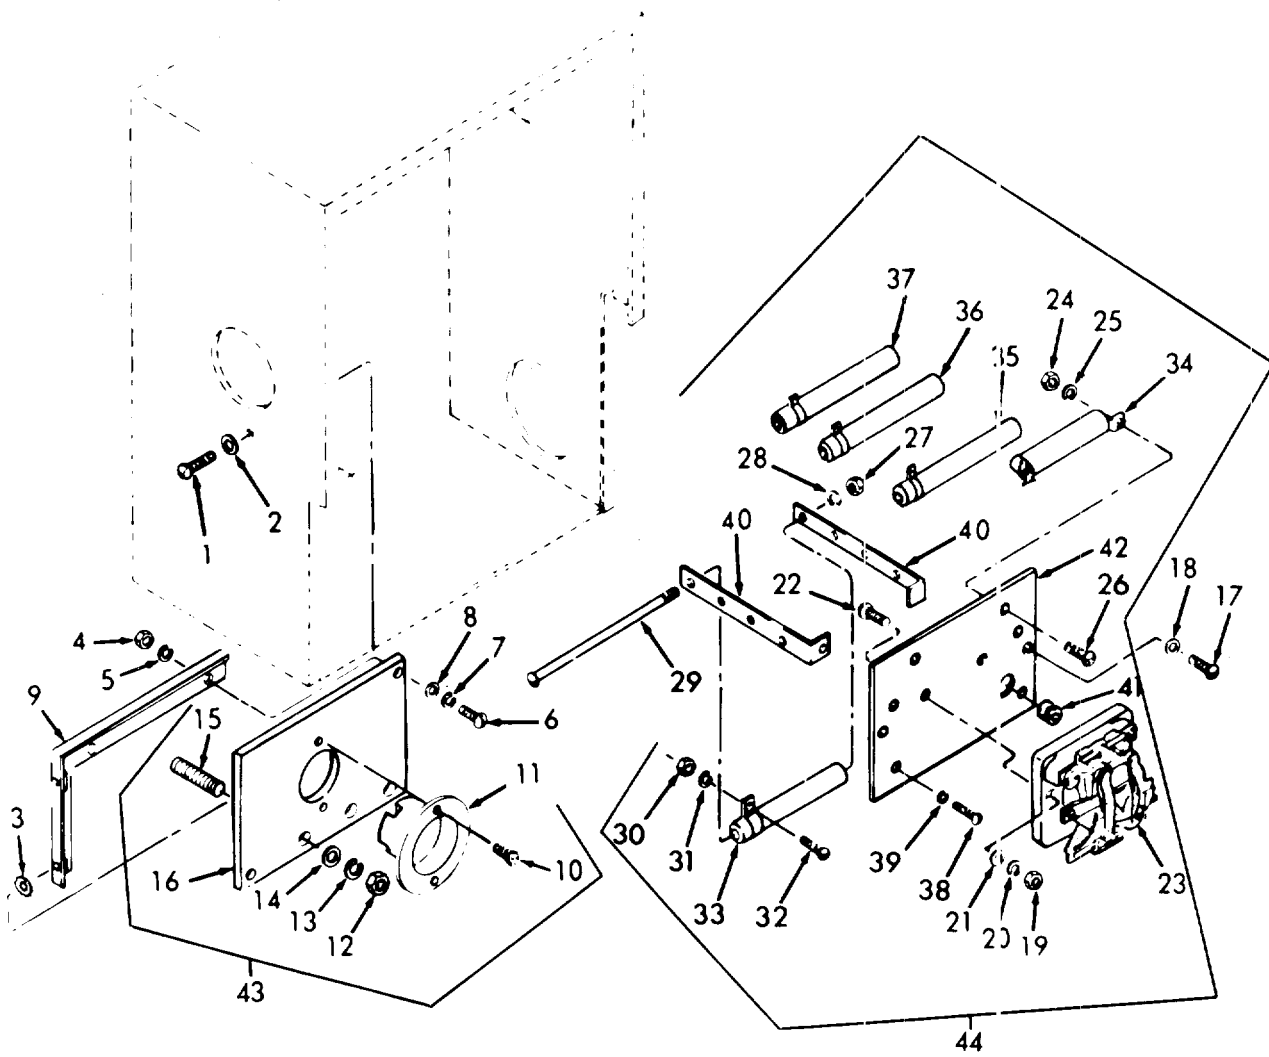

Figure 18-5. Resistor and Relay Mounting Panel, and Emergency Power Panel.
- b. Disassembly. Disassemble the resistor and relay mounting panel and emergency power panel as illustrated in figure 18-5.
- c. Reassembly. Reassemble the resistor and relay mounting panel and emergency power panel as illustrated in figure 18-5.
## LEGEND FOR FIGURE 18-5: